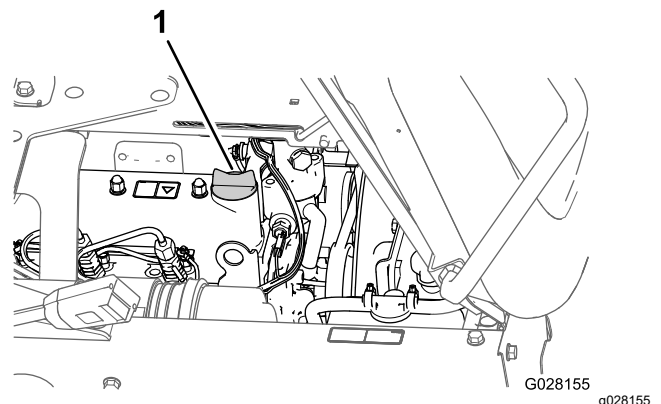

Figure 77
5. Remove the oil-filler cap from the filler neck of the valve cover of the engine and slowly pour approximately 80% of the specified amount of oil into the filler neck (Figure 77).
8. Install the oil-filler cap into the filler neck (Figure 77).